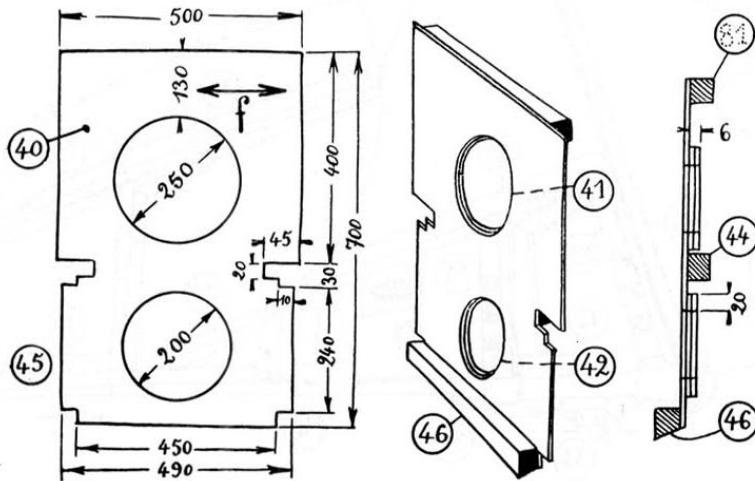

Figure 3.8: Pilot's seat back
The two sides will be joined by the pilot's seat back ④⁰, of 3mm plywood as in fig. 3.8. Holes ④¹ and ④² are reinforced with plywood rings, and provide access to the luggage compartments.